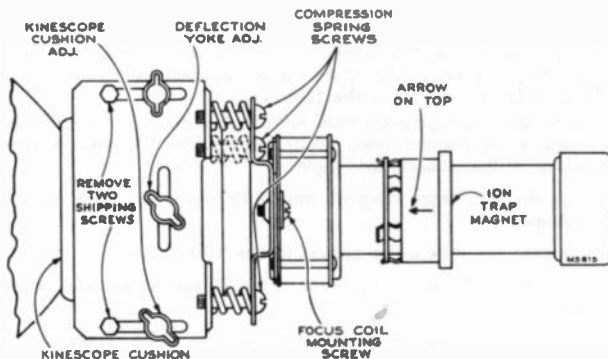

Figure 2—Yoke and Focus Coil Adjustments
**ION TRAP MAGNET ADJUSTMENT.**—Set the ion trap magnet approximately in the position shown in Figure 2.